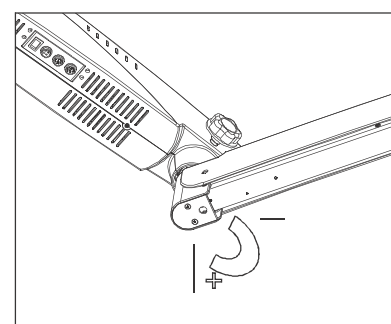

Fig. 62
2. Loosen two allen bolts by using allen wrench of 4 mm as shown in fig.62.